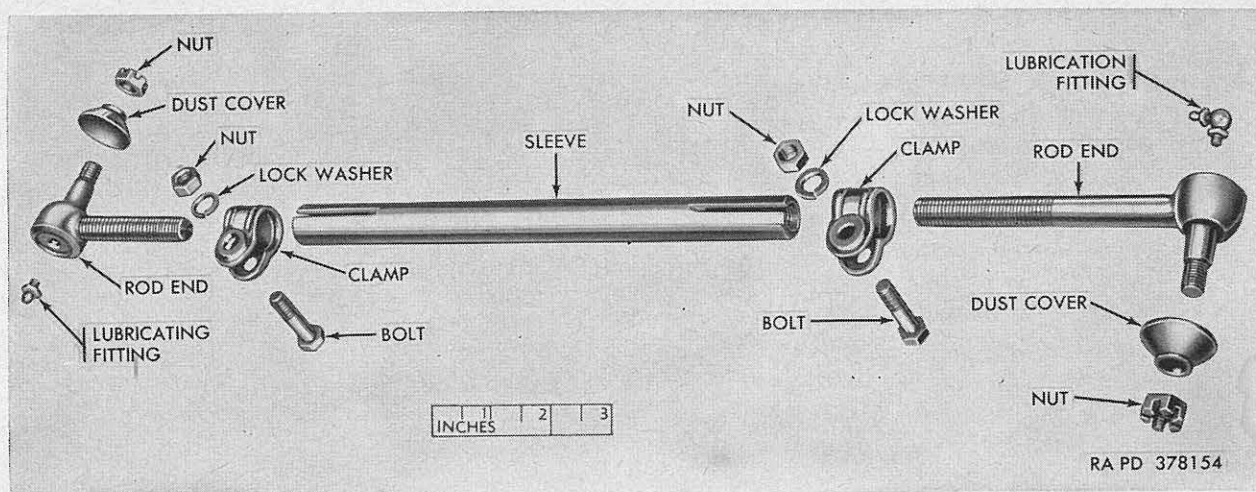

Figure 83. Tie rod—exploded view.
*b. Repair* (fig. 83).
- (1) Examine dust covers on tie rod ends and replace if torn, stretched or otherwise damaged.
- (2) If ball in tie rod end is not held firmly in socket replace entire tie rod end. Examine threads of nut and ball stud and replace entire tie rod end if damaged. Examine threads on shaft of tie rod end and, if damaged, either rethread with die or replace entire tie rod end. If shaft of tie rod is bent, either straighten or replace entire tie rod end. Replace lubricating fitting if it is damaged.